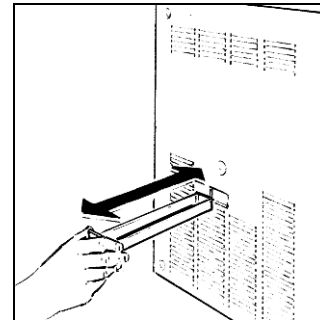

Fig. 27
- Remove the side drawer as indicated in figure 27 and check for some dripping remembering to reinsert it once checked.